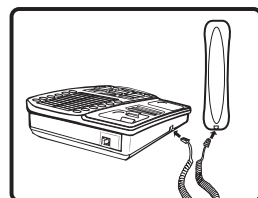

Figure 3
2. Plug one end of the modular coiled handset cord into the handset. Plug the other end into the jack located on the left side of the telephone. Place the handset in the cradle. See Figure 3.